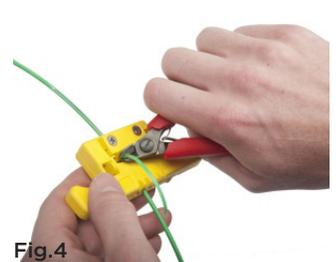

Fig.4
7. When you reach the end of the access point, **cut off the scrap portion of tube before opening or removing the tool.** (*Fig.4*)